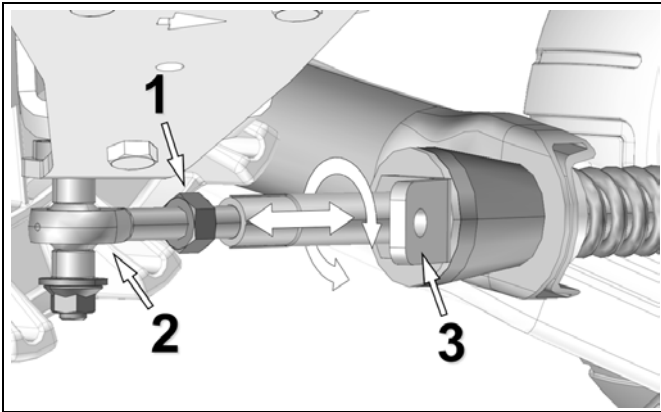

Figure 5
- Loosen jam nut (1). Adjust length of rod end (2) by rotating the steering limiter support plate on (3) the stabilizing arm. Use a 30 mm [1 3/16 in] wrench to rotate support plate to obtain **308 mm [12 1/8 in]** above the ground. Refer to Figure 5.